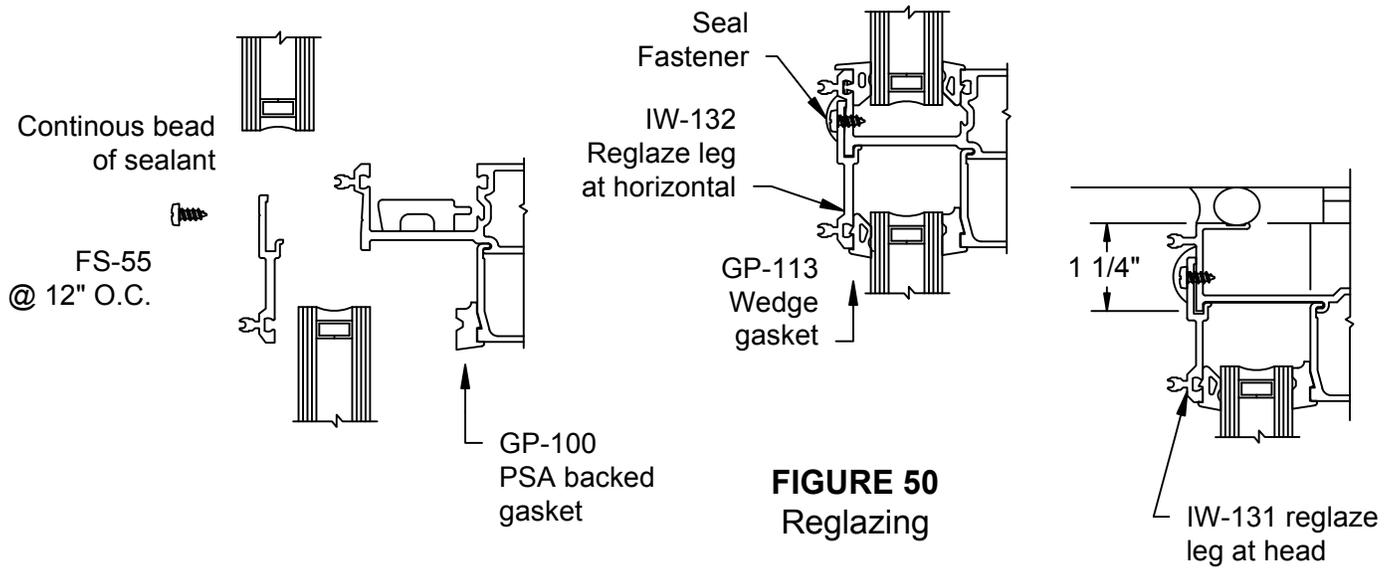

FIGURE 50
- R.5 Install IW-131 or IW-132 reglaze leg. Set in continuous bead of sealant and attach with FS-55 fastener @ 12" o.c., cap seal all fasteners. See FIGURE 50, page 42.